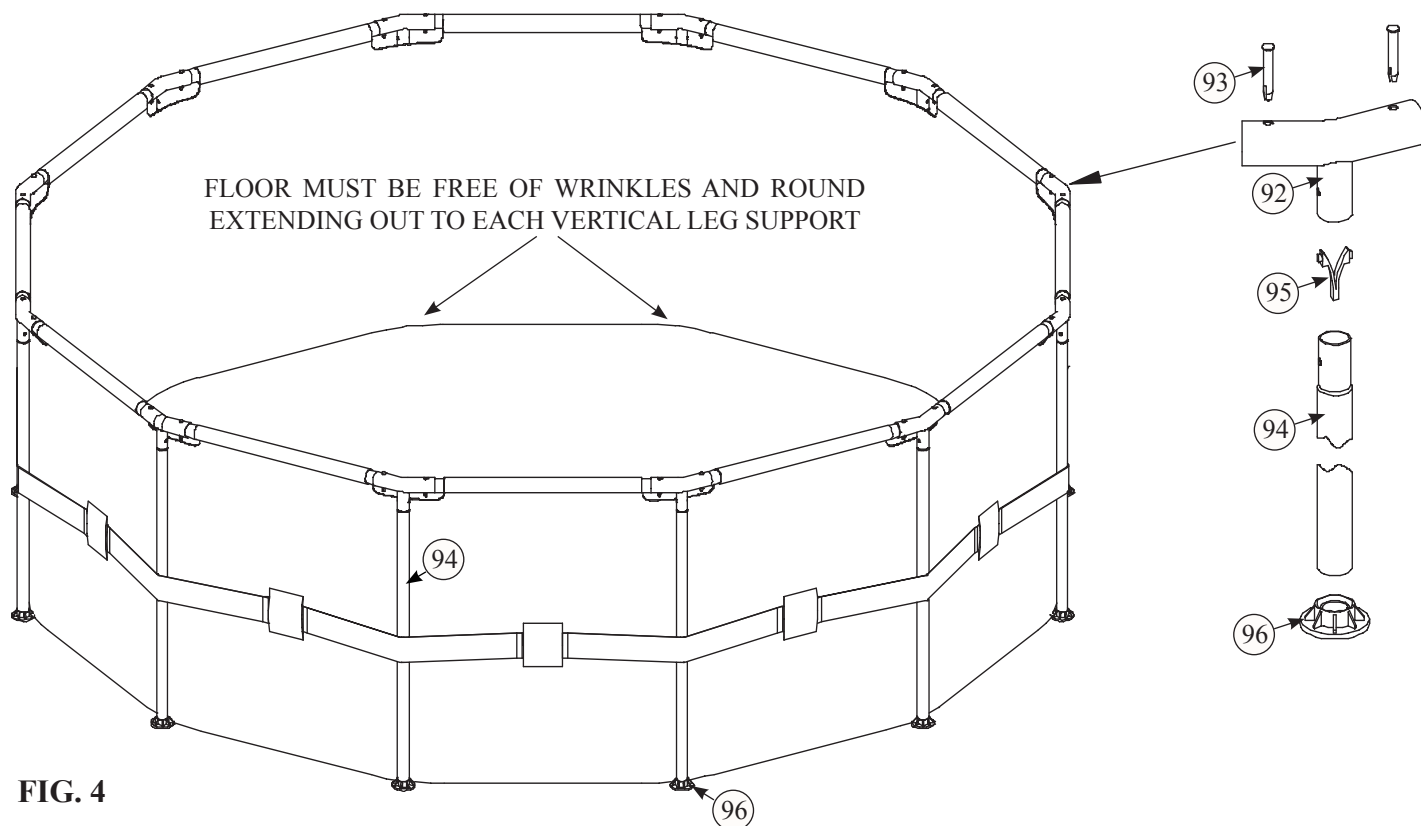

FIG. 4
4. Once the top frame is assembled, locate the Vertical Legs (94). The Vertical Leg sections will have a Spring Pin (95) pre-installed at the top end. First, insert the leg down through the belt that runs around the middle of the pool, see **Fig. 4**. Now, to connect them into the top frame, push the buttons in as you insert the Leg up into the Tee Fitting. Look through the hole in the Fitting as you insert and rotate the pipe until the buttons align with the holes and pop out, locking the leg in place. Finally, take one of the Leg Caps (96) and insert the bottom of the Vertical Leg into it until it stops.
6. Make sure the drain fitting is plugged securely and the cap is in place. Start filling the pool with water. NOTE: AFTER ABOUT 1-INCH OF WATER IS ON THE BOTTOM, STOP FILLING AND SMOOTH WRINKLES OUT OF THE BOTTOM OF THE POOL MAKING SURE THE POOLS BOTTOM IS FLAT AND ROUND EQUALLY IN ALL DIRECTIONS. SEE FIG. 4 BELOW